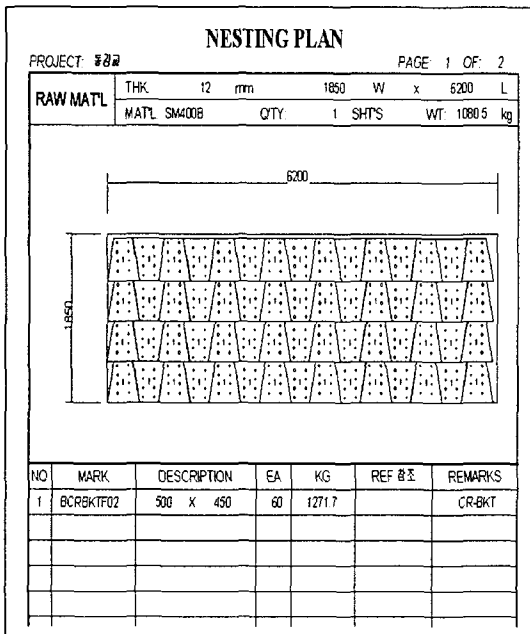

Fig. 12 Nesting plan report
- Nesting Plan, Piece Drawing, and Bill of Material report (Fig. 12).